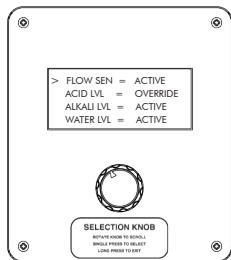

fig. no.23.1
• **SENSOR STATUS** (fig. no.23.1)